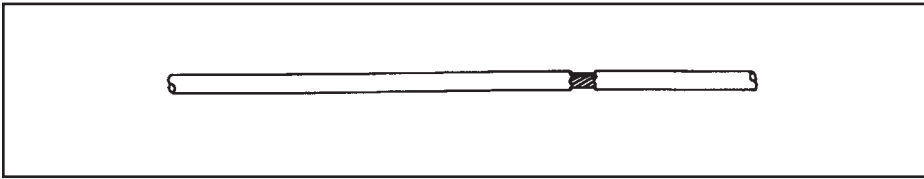

Figure 1.
- A tear or crack in the cable sheath that exposes the cable. See Figure 1